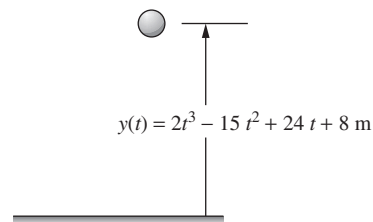

Figure P8.8 Motion of a particle in the vertical plane.
- 8-8.** The motion of a particle in the vertical plane is shown in Fig. P8.8. The height of the particle is given by